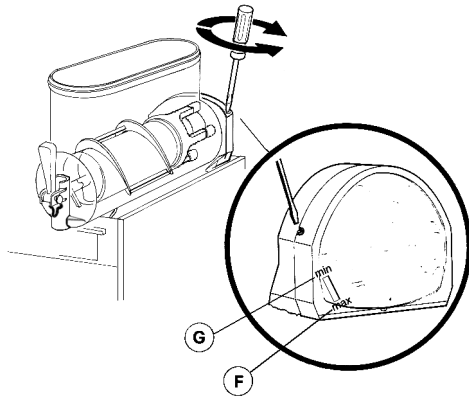

figure 3
With reference to figure 3 dispenser controls functions are as
- 1 - **Granita viscosity adjustment:** proper Granita viscosity is factory preset. To change the viscosity, if needed, use a standard screwdriver to turn the adjustment screw located in the rear wall of each container as follows (see figure 3):